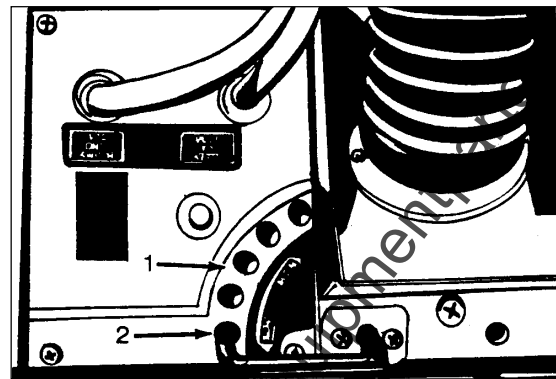

Figure 1
The Model 577 has five brush settings (1). The adjustment lever (2) is at the rear of the machine. See Figure 1.